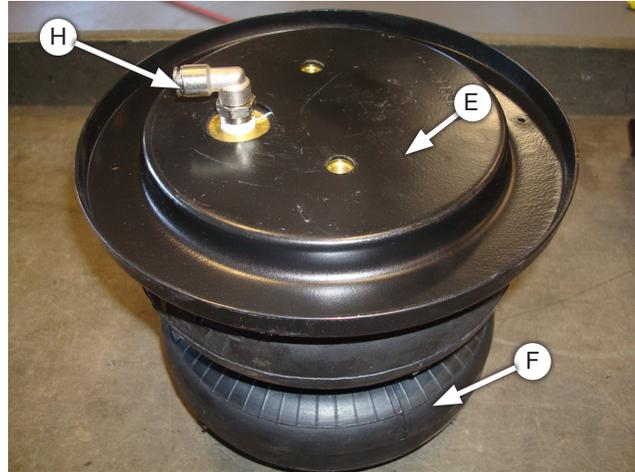

Fig. 19
1. Place the roll plates (E) on the air springs (F). Install the 90-degree swivel elbow fitting (H) onto the air springs (Fig. 19). Tighten the air fittings finger-tight plus 1 1/2 turns.